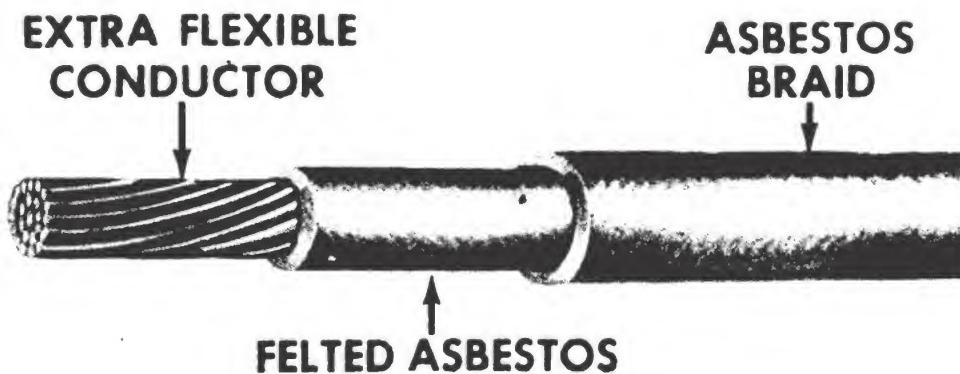

Figure 9.—Asbestos insulation.
Asbestos is the perfect insulation for wires and cables used in very high temperature work. It is absolutely fire-resistant and never changes with age. One type of asbestos-covered (AC) wire is shown in figure 9. It consists of just the stranded copper conductor covered with felted asbestos. When you wire motion-picture projectors, arc lamps, and spotlights, you will use this type of wire.